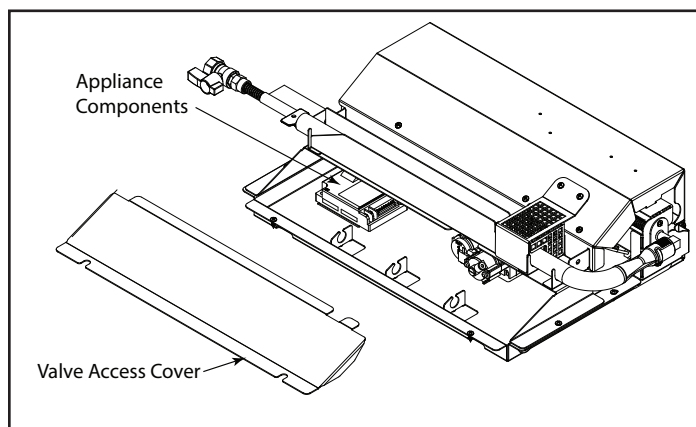

Figure 1
5. Remove the Valve Access Cover by grasping cover by the edges, lift and pull forward out of the appliance. Gas components should now be accessible. See Figure 1.